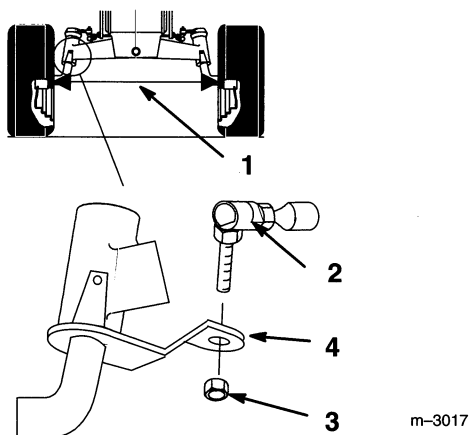

Figure 29
Maintain toe-in of the front wheels as specified. If uneven tire wear, lawn scuffing or hard steering develop adjustment may be required. Check the toe-in after every 100 operating hours or yearly, whichever occurs first (Fig. 29).
3. Measure, between the rims, at spindle level, in the front and rear of the wheels (Fig. 29).
2. Remove ball joint from one steering lever (Fig. 29).